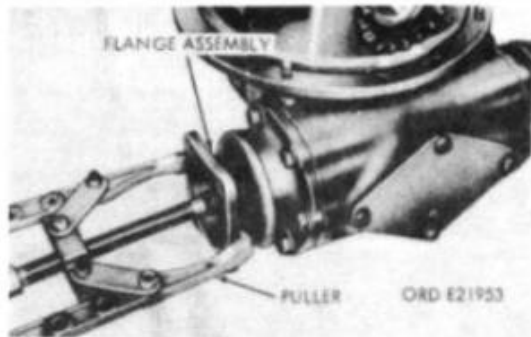

Figure 71. Removal of companion flanges
(1) Remove eight capscrews and lockwashers from top cover and remove cover and gasket. Discard gasket.
(2) Remove four capscrews and lockwashers from inspection cover and remove cover and gasket. Discard gasket.
*b. Removal of Companion Flanges (Fig. 71).* Remove cotter pin from slotted nut (fig. 70) at each end of the through shaft and remove both nuts and washers. Using universal puller 5120-338-6721, remove companion flanges from each end of Through Shaft.